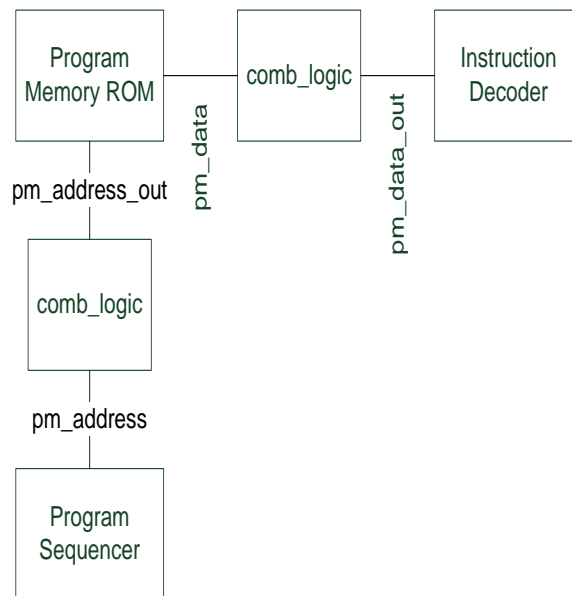

Figure 1: Modified microprocessor
3. Modify the top level of your microprocessor by creating two instances of the "comb_logic" module and connect them as shown in Figure 1.